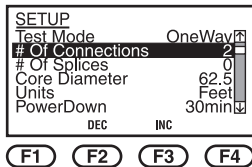

Figure 3-3. Number of connections (for loss budget).
2. Press the up- and down-arrow keys until **# Of Connections** is highlighted (see Figure 3-3).